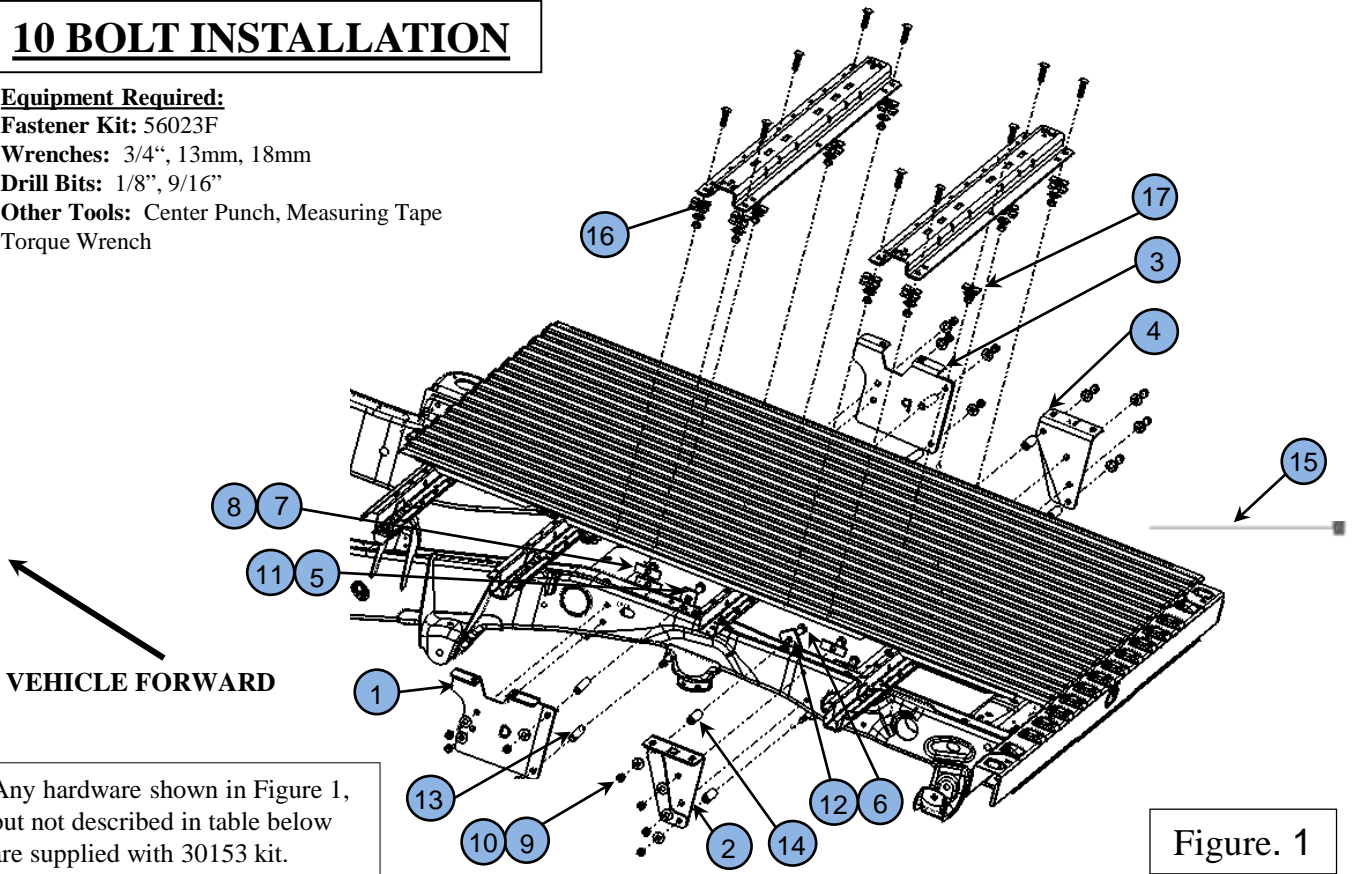

Figure. 1
1. Place the front mounting rail in the bed of the truck. Using a tape measure, center the rail on the floor of the truck bed and locate the proper distance from the rear of the rail to the back edge of truck bed as illustrated on figure (3). Choose the correct dimensions from figure (3) per Standard/Long truck bed.
3. Loosely install the Front frame brackets (1) and (3) using appropriate hardware and hand tighten. (See figures 1, 4,7) **NOTE:** If the truck has helper spring brackets, refer to additional instructions on page 8 for installing frame brackets.
**DRIVER FRONT BRACKET (1):**
A. Using two 1/2" fishwires (15) provided, install two 1/2" x 1.75 carriage bolts (7) and 1"x3" blocks (8) using slot (Inside frame holes on Driver side are blocked by fuel tank and are not accessible) on outside of the frame. Run the fishwire going in from this slot and come out of the bolt holes as shown in figure (4). Keep both fishwires on the bolt until the bracket is installed. Place the conical washer (9) on the carriage bolt and secure with nut (10).
B. Now position the Front mounting block (5) on driver side against inside of the frame. While positioning front mounting block, the brake line bracket will be in the way. Loosen the two-brake line support bracket bolts (M8) as shown in figure (5), creating enough space for mounting block to pass through, until closely aligning mounting block slots with frame bracket holes. Now install two 1/2" x 5.5 carriage bolts (11) running from inside of frame through mounting block, 1/2"x3.5 Tube Spacer (13) and frame bracket as shown in figures (1 & 4). Place the conical washer on the carriage bolt and secure with the nut. Fasten the brake line bracket bolts.
**PASSENGER FRONT BRACKET (3):**
C. Following the similar procedure as on the driver's side, using two 1/2" fishwires provided, install two 1/2" x 1.75 carriage bolts (7) and 1"x3" blocks (8) using larger top hole on inside of frame as shown in figure (8). Run the fishwire from this hole and coming out of the carriage bolt hole. Place the conical washer and secure with the nut.
D. Now position the front mounting block on passenger side (5) against inside of the frame aligning slots with frame bracket holes. Install two 1/2" x 5.5 carriage bolts (11) running from inside of frame through mounting block, 1/2"x3.5 Tube Spacer (13) and frame bracket as shown in figures (1 & 7). Place the conical washer on the carriage bolt and secure with the nut.
6. Reposition the front mount rail over the enlarged holes. Install the front rail using carriage bolts supplied in 30153 kit. Ensure 5/16" U-shaped spacer supplied in 30153 kit and 1/4" U-shaped spacer supplied in 56023 kit are installed as shown in figures (2.a and 2.b). Attach the 1/2" conical washers and hex nuts on bottom side of the frame brackets (1) and (3). Install center bolt using the supplied 1"x2" block (17) on bottom side of bed floor. Hand tighten all fasteners.